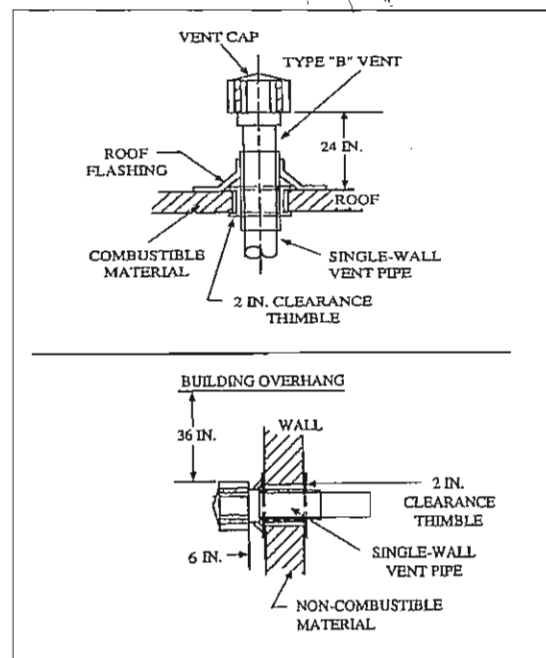

Figure 2-19
- Single wall galvanized flue pipe or Dura/Connect single wall, flexible connectors must be used. The portion of the flue pipe which goes through combustible material in the building wall or roof must pass through a type "B" vent to maintain clearances (see Figures 2-19 and 2-20).
venting exiting the roof should be 2 ft. above the roof. For horizontal venting, the flue should be 6 in. from the sidewall. Care should be exercised to ensure that vent opening is beyond any combustible overhang (see Figure 2-19).